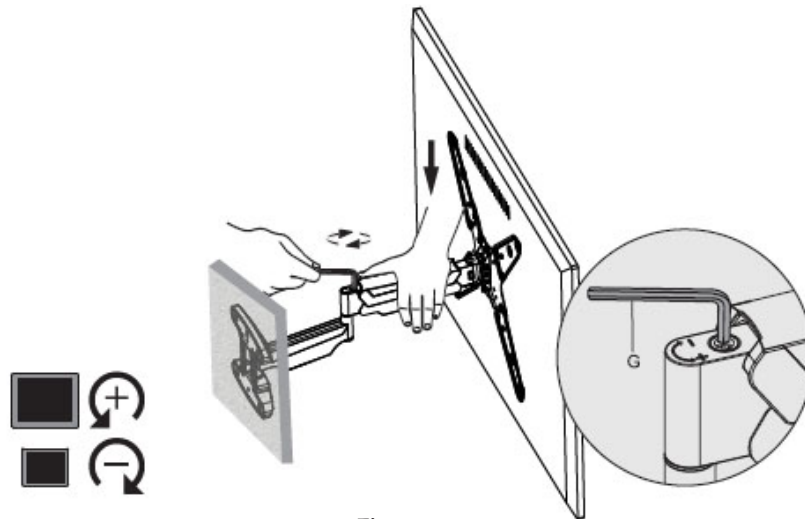

Figure 8
1. Adjust the tension of the Gas Spring using **4mm Allen Key (G)**, see **Figure 8**.